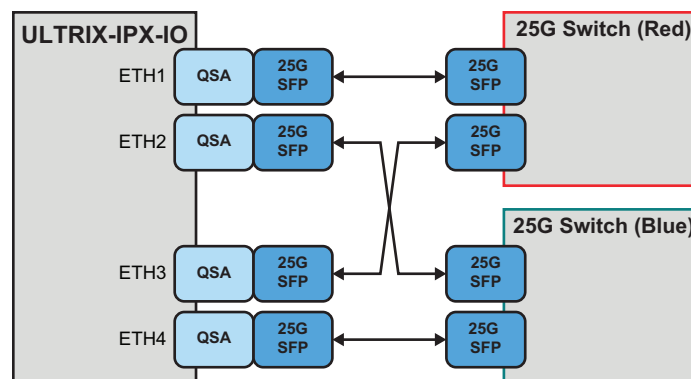

Figure 37 Workflow — QSA/SPF to SFP (25G Switches)
**Figure 37** shows a simplified workflow where the ULTRIX-IPX-IO provides bi-directional communication via four QSA (QSFP to 25G SFP adapter) using fiber cables connected to two 25G ethernet switches.